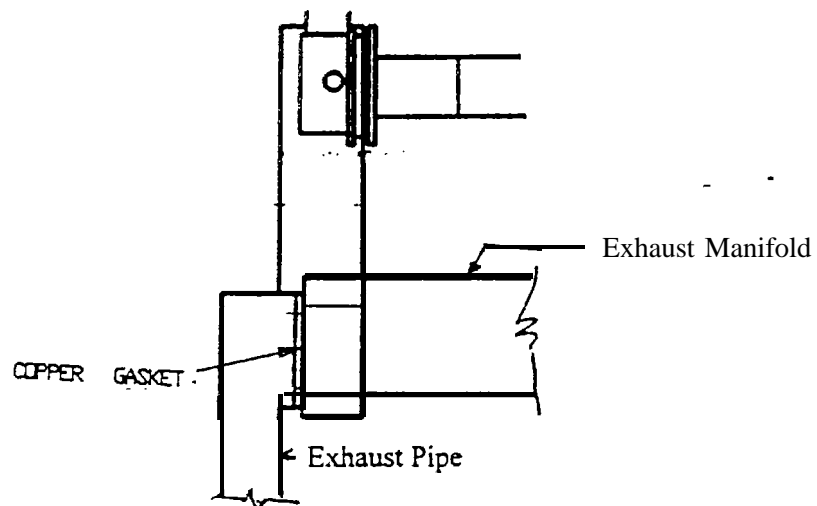

Figure 9, Gasket between Exhaust Pipe and Exhaust Manifold Flange
- (WEEKLY) 15. ( ) A copper gasket is installed between the flange of the exhaust pipe and the flange of the exhaust manifold as shown in Figure 9.